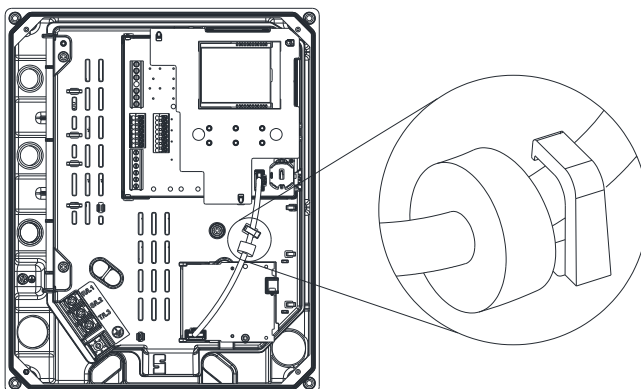

Figure 8-9
6. Connect the cable and fix it in the slotted hole, as shown in Figure 8-9.